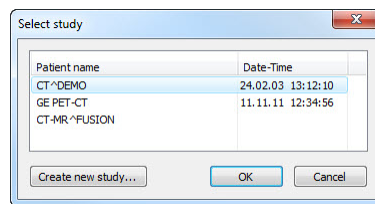

Figure 286 – Select study dialog
1. Select existing study for insertion of new series from studies list in the **Select study** dialog (see Figure 286).